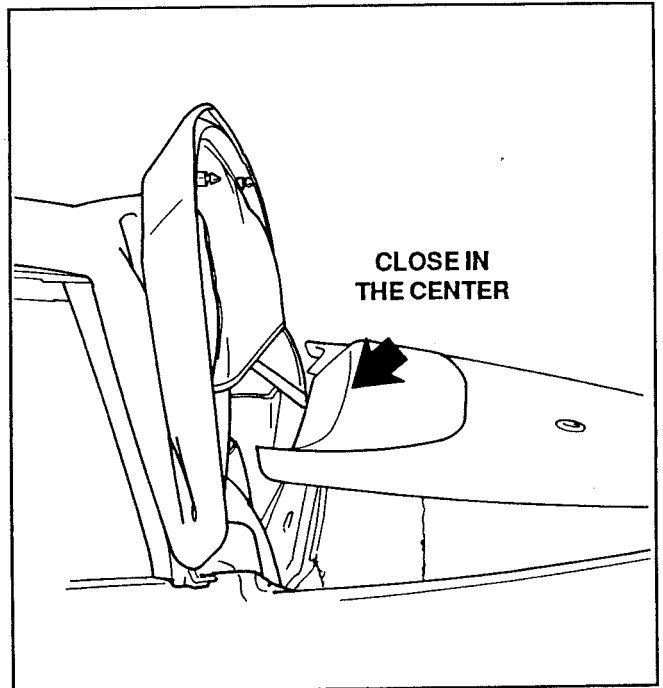

Figure 21. Close Stowage Panel
6. Shut the stowage panel by slamming in one motion (Fig. 21).